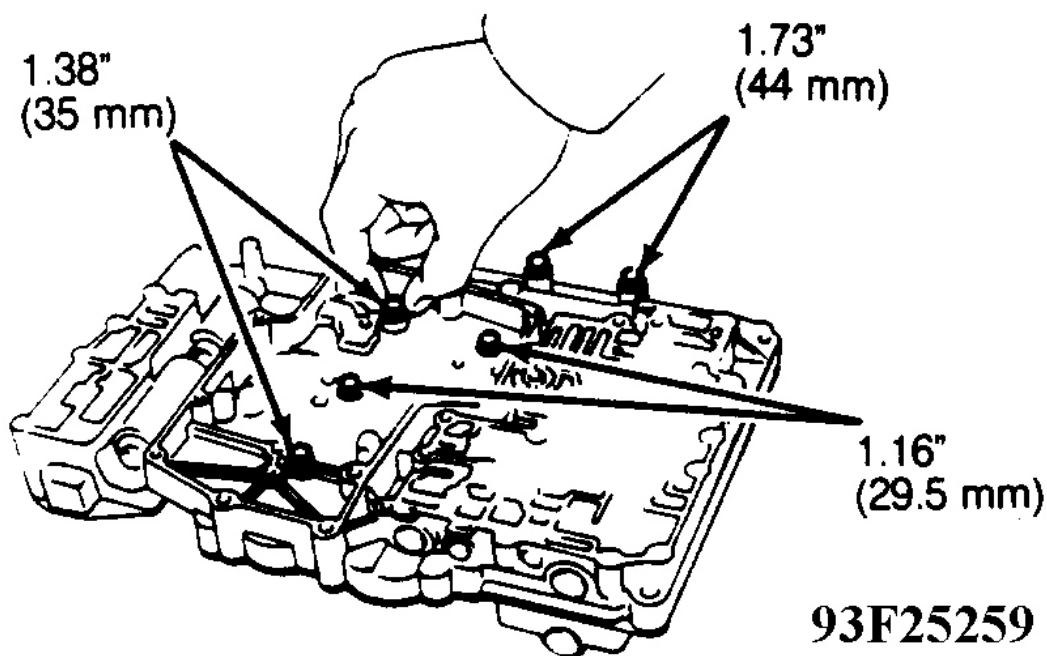

Fig. 47: Locating Valve Body Bolts (1 Of 3)
2. Position lower valve body on rear upper valve body. Temporarily install 6 wave washers and bolts. See **Fig. 47** .